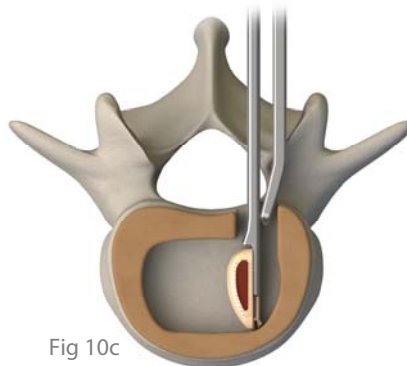

Fig 10c
- Once the A module is through the annulotomy, use the Positioning Lever to move the module medially (Figures 10c and 10d).